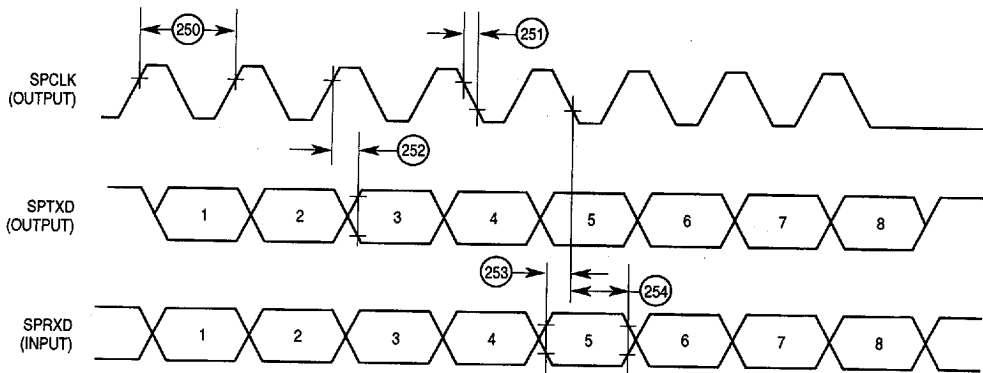

Figure 6-19. Serial Communication Port Timing Diagram
6.18 AC ELECTRICAL SPECIFICATIONS—SERIAL COMMUNICATIONS PORT (see Figure 6-19).